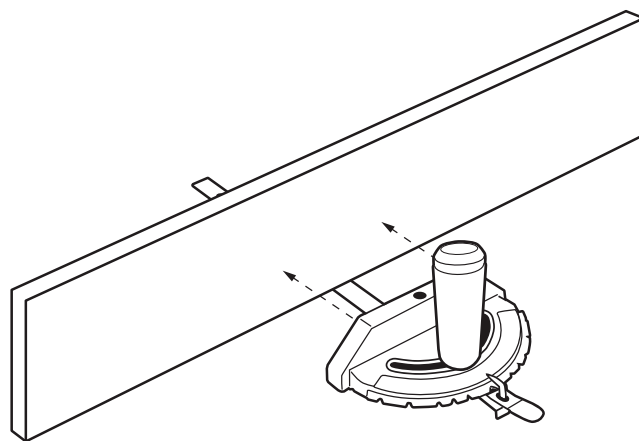

FIGURE 29
This auxiliary wood facing can be fastened to the front of the miter gauge by using (2) M6 or 1/4-20 flat head screws and nuts, placing the nuts into the slots provided in the face of the miter gauge body (FIGURE 29).